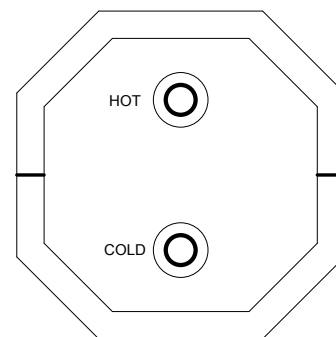

Figure 4
- A. Water connections are made at the rear of the water heater. Refer to Figure 4. Connect the hot and cold water lines to the 1/2" female pipe fitting provided on rear of tank. These fittings are marked "HOT" and "COLD". **NOTE:** Inside each fitting is a plastic fill tube. Its purpose is to enhance water circulation. **DO NOT REMOVE PLASTIC FILL TUBE.**